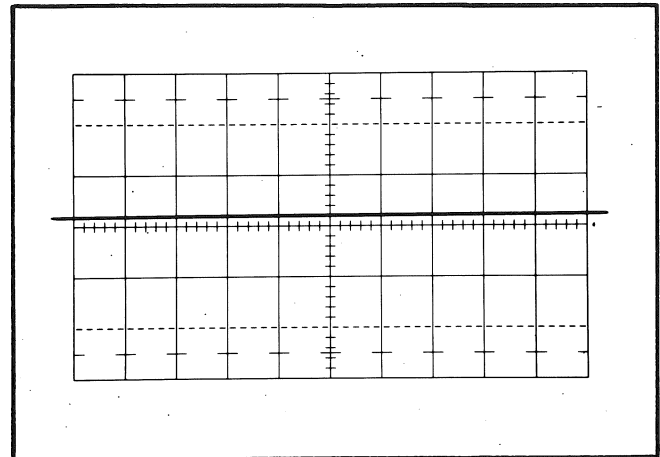

Fig. 5-9. Typical 50 Mc response, VARIABLE control minimum.
- g. Check—The signal amplitude should be no more than 1 cm. See Fig. 5-9.